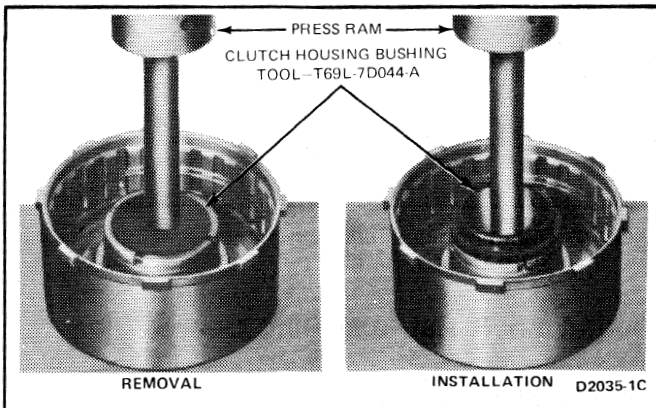

FIG. 44 Replacing Reverse-High Clutch Rear Bushing
1. If the clutch drum bushings were removed, position the drum in a press and press new bushings into the drum with the Tool T69L-7D044-A shown in Figs. 44 and 45.